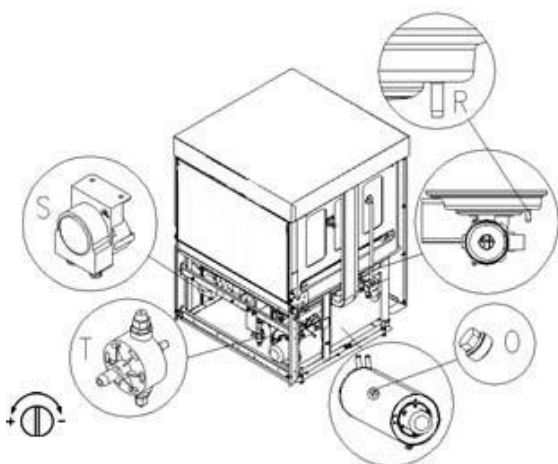

Figure 15 Connection to Automatic Detergent and Quick-Dry Agent Distributors
1. Dishwasher without built-in detergent distributor (optional or configured by user) (Figure 15)
The user may use optional dosing distributor with automatic detergent distribution (Figure 15). When the machine is in every washing cycle, the "S" dose is pumped into the water tank. If it is configured by the user, follow the connection instructions of Figure 15. The "R" is the detergent inlet. The hose on the one end is connected to the "S" and that on the other end is inserted into the dose vessel.
2. Dishwasher with built-in siphon-type quick-dry agent distributor (Figure 15)
The machine is provided with siphon-type quick-dry agent distributor. The Customer may adjust the dosing distribution with knob. If the dosage distributor is configured by the Customer, follow the connection instructions as shown in Figure 15. The "T" is quick-dry distributor. The hose on the one end is connected to the "0" and that on the other end is connect to the quick-dry dose vessel.